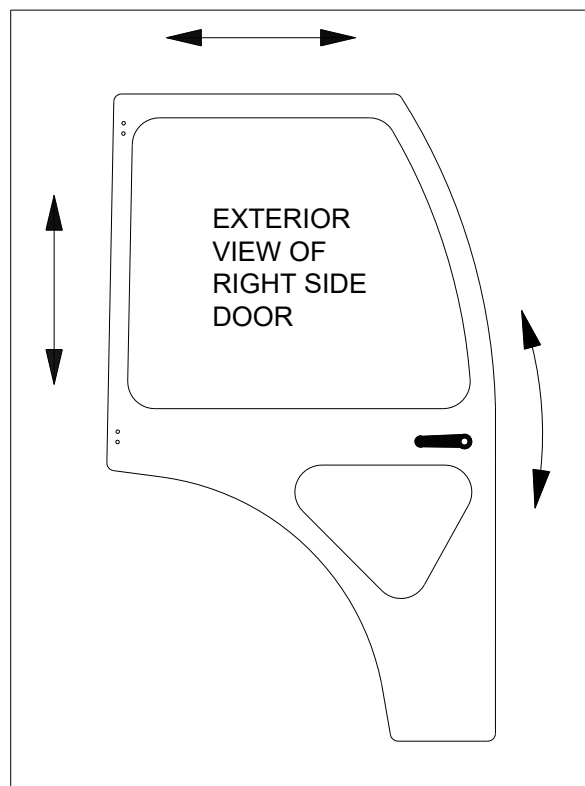

Fig. 17.3 (right side door)
17.3 Per fig. 17.3, the 1/4-20 flange hex head bolts on the door hinges can be loosened on the rear tube, or on the door itself, or in both places, in order to slightly rotate the door up or down as necessary for proper latch assembly and striker bolt engagement. Note: an assistant will be needed for this step. Keep the hinge sleeves fully seated on the pin hinges. Tighten all hinge bolts using caution to **not** over tighten. Over tightening will crush (damage) the structural tubing. **Torque to 40 inch/pounds.**